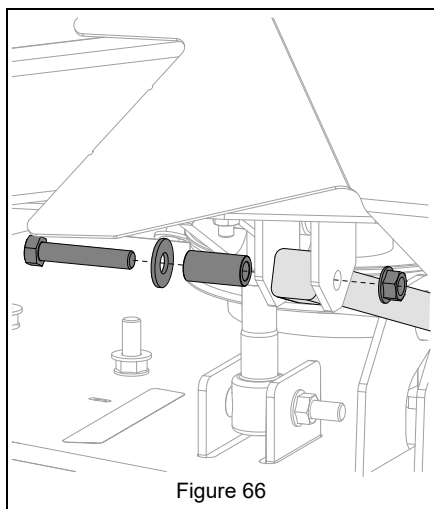

Figure 66
8. Remove hardware retaining drag links to frame. See Figure 66.